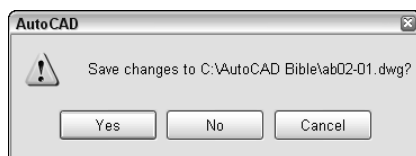

Figure 2-5: If you try to exit AutoCAD or AutoCAD LT without saving the changes you made to a drawing, you first have a chance to save the changes.
8. Because you haven't saved the changes to the drawing, a message asks if you want to save them, as shown in Figure 2-5.
10. Click the application's Close box (X) to close AutoCAD or AutoCAD LT.